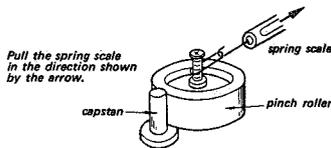
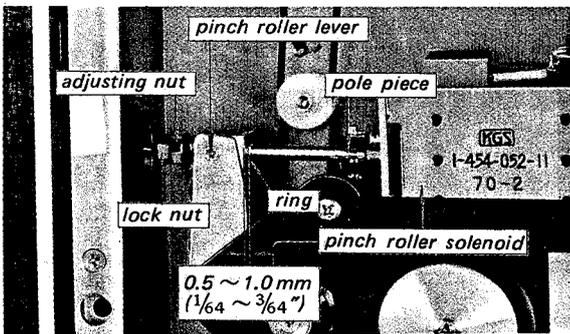

Fig. 4-1-6. Pinch roller pressure adjustment
Fig. 4-1-7. Pinch roller pressure adjustment
(See Fig. 4-1-6 and Fig. 4-1-7.)
- (1) Remove the reel panel referring to "Panel Removal" on page 14.
- (2) Place the unit in the STOP mode.
- (3) Push the pole piece of the solenoid into its housing by the hand, and make sure that the clearance between the ring and the pinch roller lever is 0.5 ~ 1 mm ( $1/64 \sim 3/64$ ").
- (4) Make a loop with a piece of string and attach the spring scale to the pinch roller shaft with the loop of string. See Fig. 4-1-6.
- (5) Hold the actuator so that the SHUT-OFF switch is activated (a rubber band or piece of masking tape will hold the actuator as though tape were threaded on the unit).
- (6) Place the unit in the PLAY mode.
- (7) Pull the scale horizontally in the direction shown by the arrow. The capstan shaft, pinch roller and the scale should be in a line.
- (8) Check a scale reading when the pinch roller just leaves the capstan shaft.
- (9) Adjust the adjusting nut so that a scale reading is between 1 kg and 1.4 kg (2.2 lb and 3.1 lb).
- (10) Make sure that the solenoid operates normally when a mode is changed from the PLAY to the STOP and vice versa several times. If the tape slips, readjust the above steps.
- (11) Lock the adjusting nut with the lock nut.
- (12) Apply lock paint to the nuts.